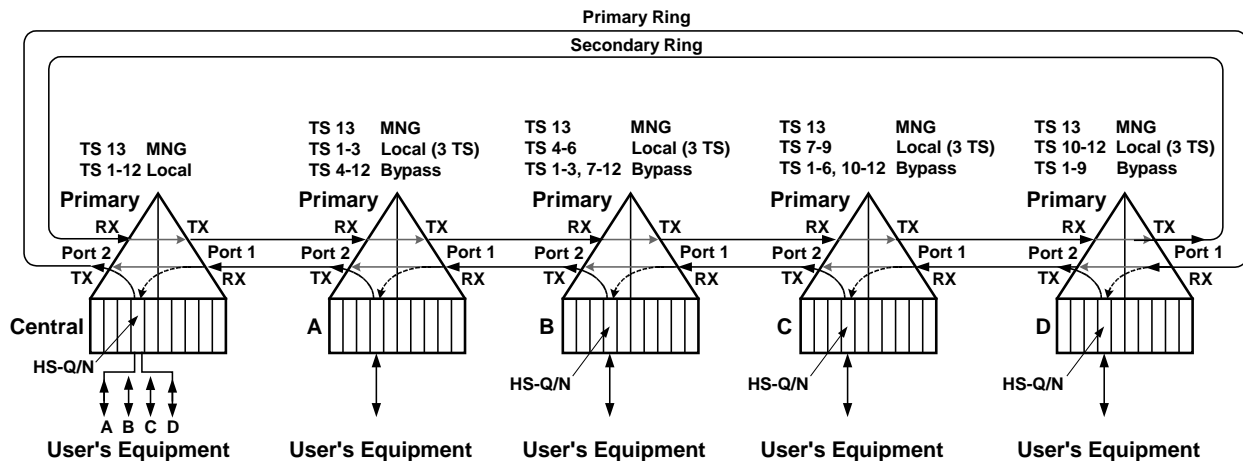
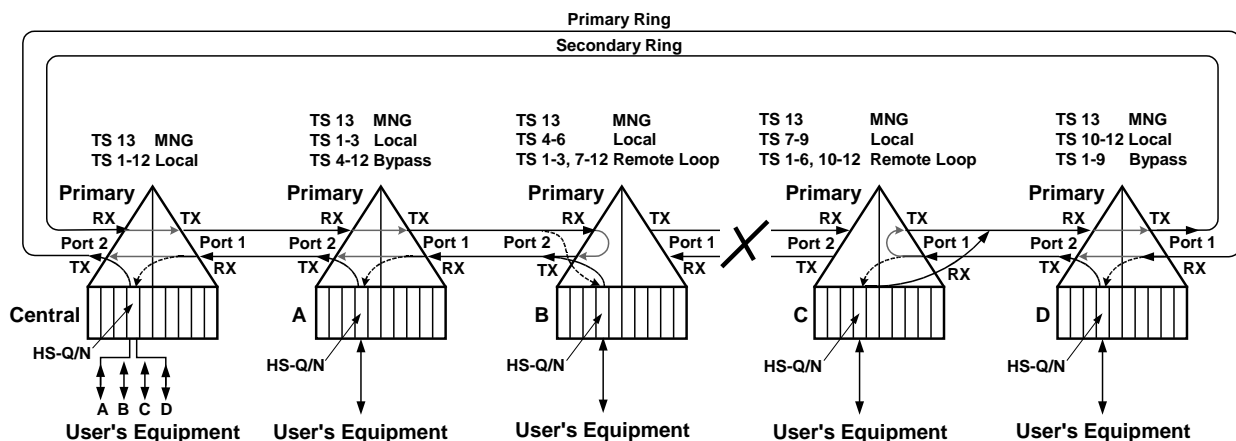
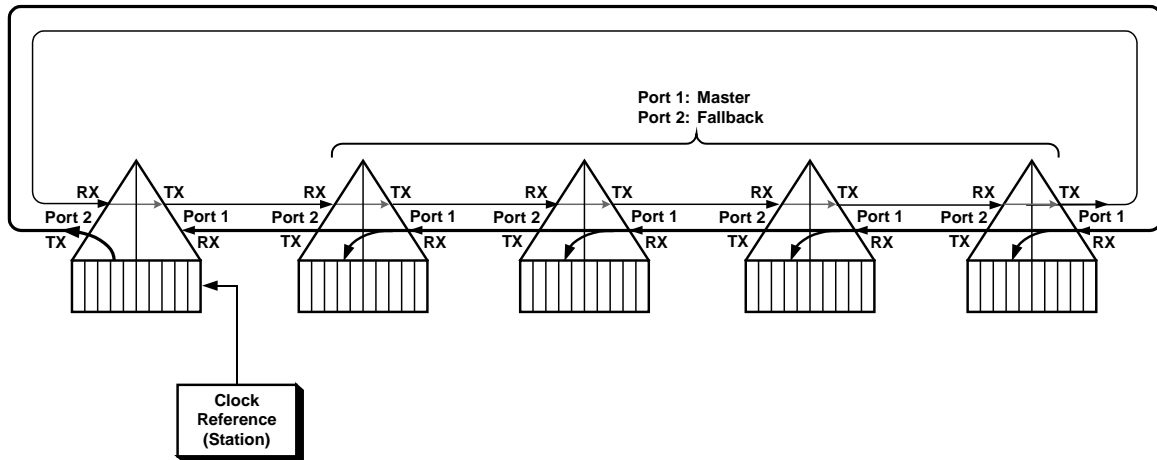
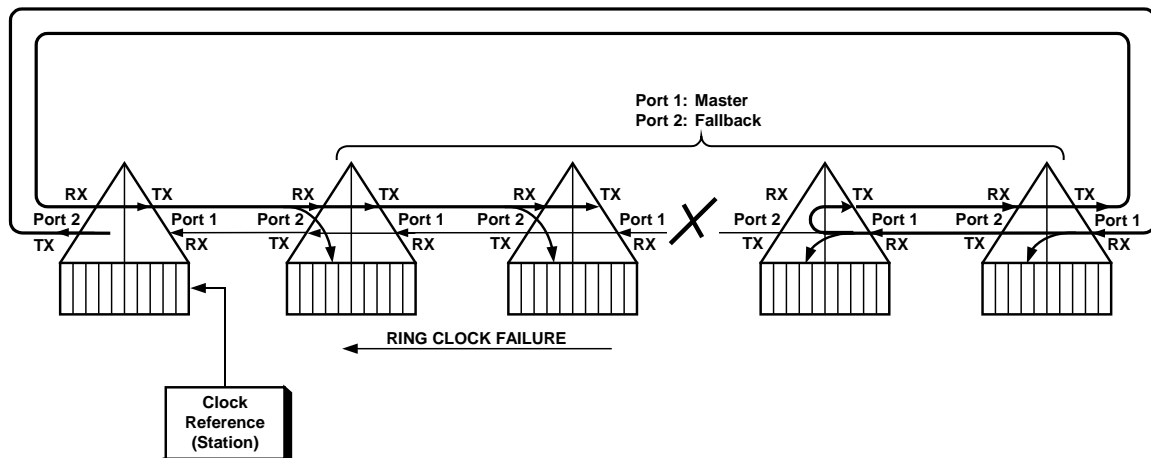

Figure 9-4. E1/T1 Ring Redundancy Topology – Signal Flow during Normal Operation
Figure 9-5. E1/T1 Ring Redundancy Topology – Signal Flow after Segment Failure
Figure 9-6. E1/T1 Ring Redundancy Topology - Normal Timing Reference Flow
Figure 9-7. E1/T1 Ring Redundancy Topology - Timing Reference Flow after Segment Failure
*Figure 9-4* shows a typical application that uses the ring redundancy topology. In each Megaplex unit, two main link ports (identified as port 1 and port 2) are defined as a redundancy pair. One port of each unit (in this example, port 2) is
configured as primary port: under normal conditions, each Megaplex transmits through the primary port and receives through the secondary port. Therefore, in *Figure 9-4* the primary ring propagates data clockwise.
When one of the segments in the ring fails (see *Figure 9-5*), the CL modules of the two Megaplex units adjacent to the failure point detect the loss of signal and change the signal routing within the corresponding units. Therefore, now each unit receives and transmits only through the synchronized port. Timeslots previously bypassed between the ports are now transferred between the receive and transmit sides of the active port by a connection similar to the remote loopback, thereby preserving transmission path continuity.
For example, in Figure 9-4 the timing flows clockwise through the whole ring (the main timing source is port 1, and the fallback is port 2), whereas after recovery from segment failure (Figure 9-5), in some parts of the ring the direction of reference timing flow must be reversed. Figure 9-6 and Figure 9-7 show the timing reference flow before and after recovery.